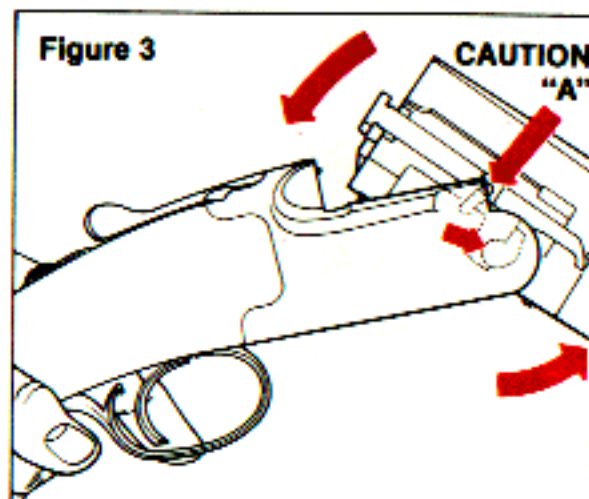

Figure 3
(3) To attach the barrel assembly to the receiver, hold the stock by the pistol grip in one hand as shown in Figure 3. Make sure the top lever is opened to the right in order to accept the barrel assembly. Hold the barrel assembly in the other hand and engage the integral trunnions in the receiver with the corresponding recesses at the front end of the monobloc. Be sure the small lugs (indicated by the arrow 'A' in Figure 3) on the outer surfaces of the ejectors engage their corresponding slots inside the front end of the receiver **BEFORE CLOSING THE GUN!** The foregoing caution must be followed, otherwise the 'ball' area of the receiver will be damaged by the ejectors as the gun is closed.